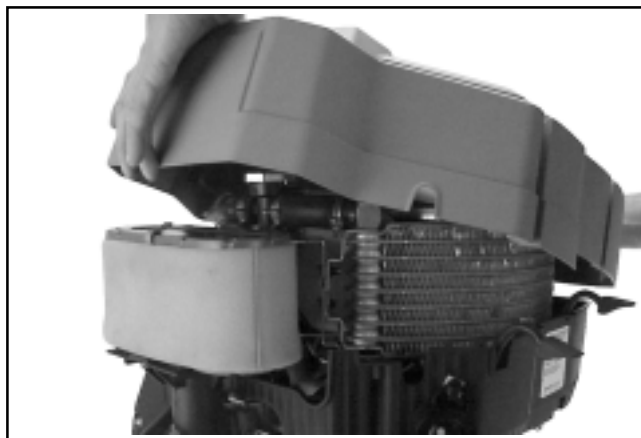

Figure 7-3. Removing Upper Blower Housing and Screen Assembly.
1. Unhook the retaining straps and remove the upper blower housing and screen assembly. See Figure 7-3.